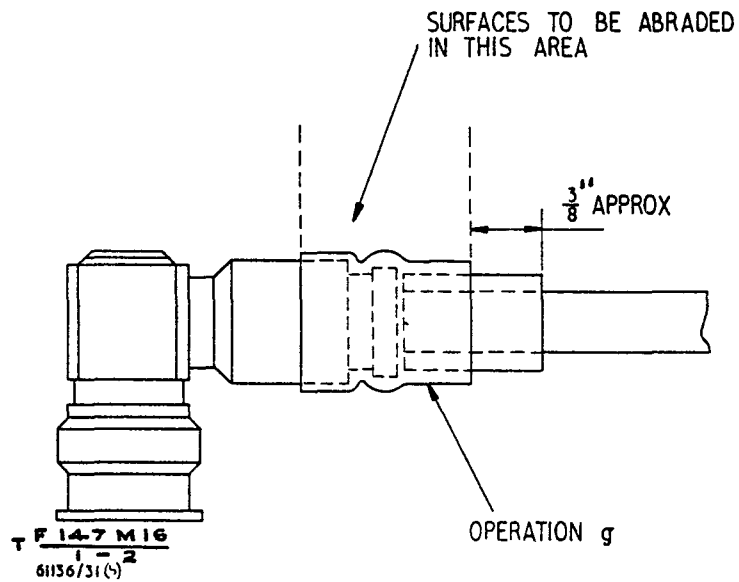

Fig 2 - Position of 3/8 in. sleeve
e. Carefully and evenly abrade the surfaces to be bonded, using a fine emery cloth (Fig 2).
g. Slide one 3/8 in. dia sleeve forward and position as shown in Fig 2. Shrink sleeve as detailed in d. When the sleeve has assumed the configuration of the item covered, discontinue heating. Additional heating will NOT make the sleeve shrink more tightly.